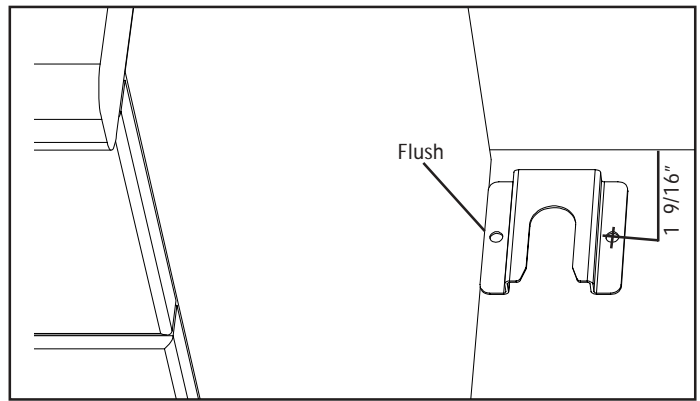

Figure 7
2. Measure to locate bracket position as shown in Figure 7.